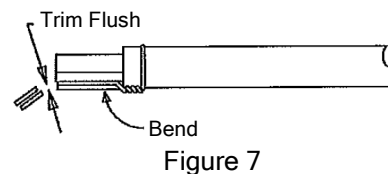

Figure 7
7. Trim the strain relief wire flush with the cable strands. See Figure 7.